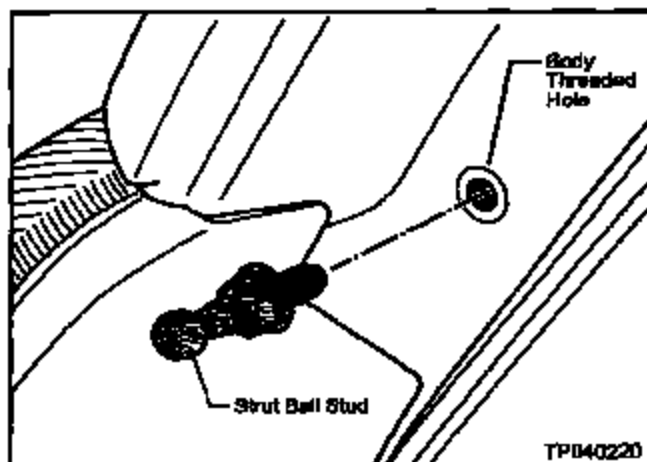

Figure B2
- e. Replace both Strut Ball Studs (see Figure B2).